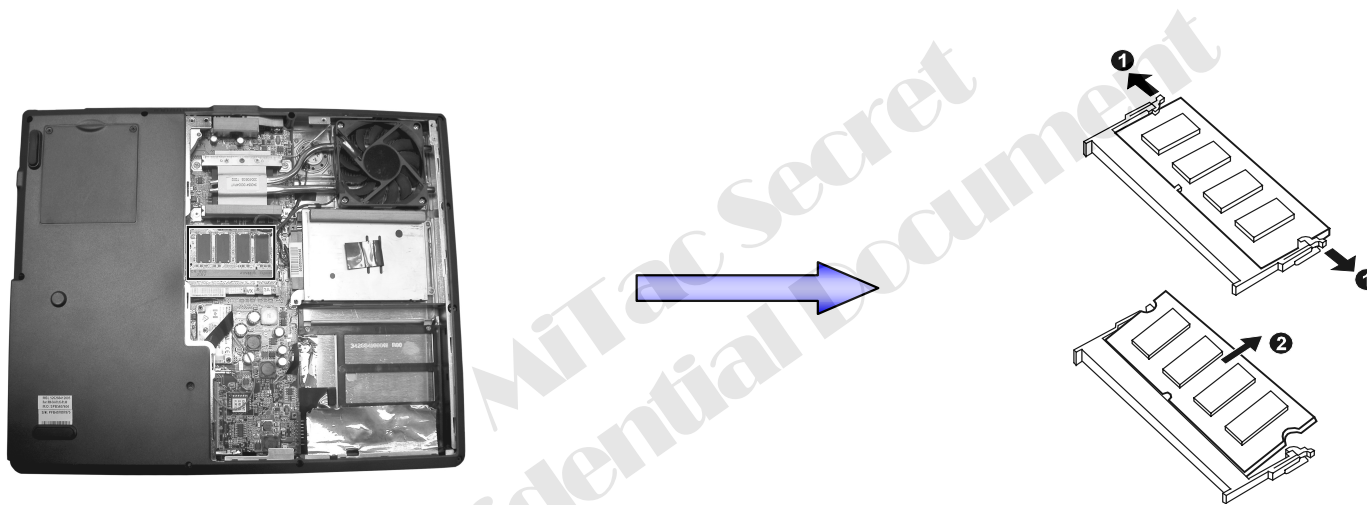

Figure 2-10 Remove the DDR-SDRAM
2. Pull the retaining clips outwards (❶) and remove the DDR-SDRAM (❷). (Figure 2-10)